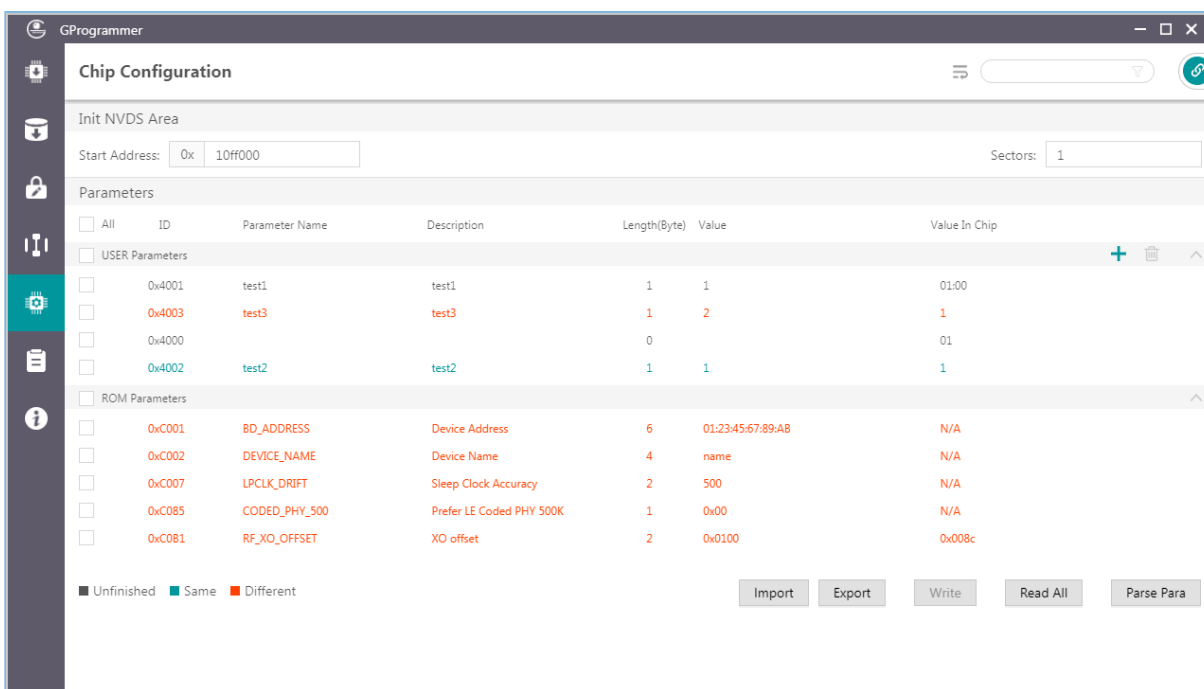

Figure 3-36 Read All interface
- **Unfinished:** Parameters in unfinished state are presented in black. These parameters are either new ones different from the default listed parameters after users click **Read All** (example: 0x4000 in Figure 3-36) or ones that have been listed in the NVDS area but with a different parameter length (example: 0x4001 in Figure 3-36).
- **Same:** Parameters in same state are presented in green, indicating the parameters already exist in the NVDS area and have the same length and value as those in the default list (example: 0x4002 in Figure 3-36)
- **Different:** Parameters in different state are presented in orange, indicating the parameters already exist in the NVDS area and have the same length as but a different value from default listed parameters (example: 0x4003 in Figure 3-36)